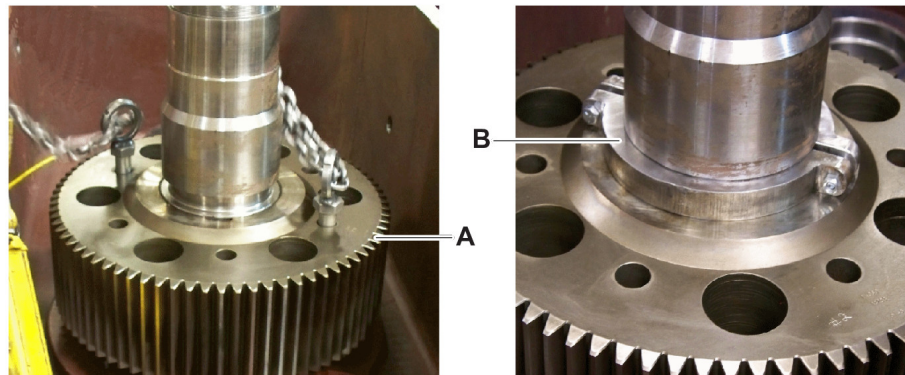

Figure 1
2. Slide the output gear (Figure 1, item A) over the spindle with the keyway flush using protective gloves as shown.